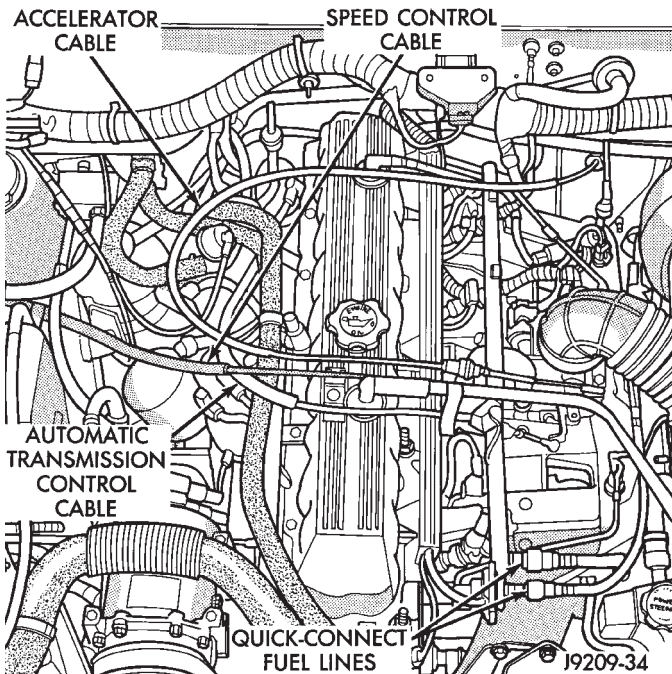

Fig. 29 Accelerator Cable, Vehicle Speed Control Cable, Automatic Transmission Control Cable & Quick-Connect Fuel Lines
- (13) Disconnect the throttle linkages (Fig. 29).
- (14) Disconnect the vehicle speed control cable (if equipped) (Fig. 29).
- (15) Disconnect the line pressure cable (if equipped with automatic transmission).
(16) Disconnect injection system wire harness connector at each injector. Mark the wires for proper installation.
(17) Disconnect the distributor electrical connection and the oil pressure switch connector.
(18) Disconnect the quick-connect fuel lines at the fuel rail and return line by squeezing the two retaining tabs against the fuel tube (Fig. 29). Pull the fuel tube and retainer from the quick-connect fitting (refer to Group 14, Fuel System for the proper procedure).